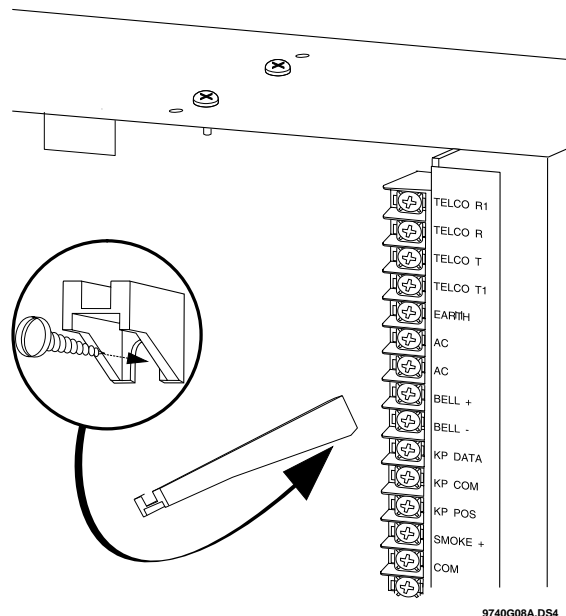

Figure 2. Installing the Circuit Board Edge Guide Standoff
- 2) Install the circuit board edge guide standoff in the lower mounting hole, in either of the two spaces located just to the left of the NX-8 motherboard (see Figure 2). Do not tighten the standoff at this time.